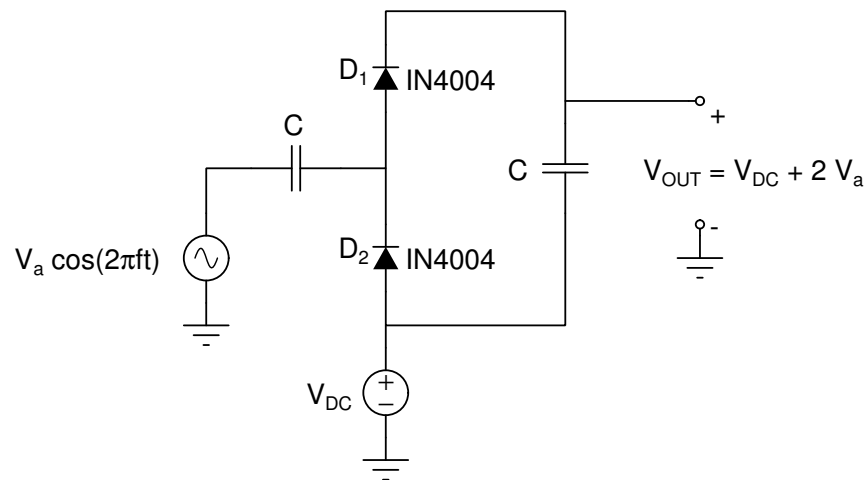

Figure 2: Villard voltage multiplier circuit.
1. The Villard voltage multiplier is shown in Figure 2. Describe how this circuit functions.